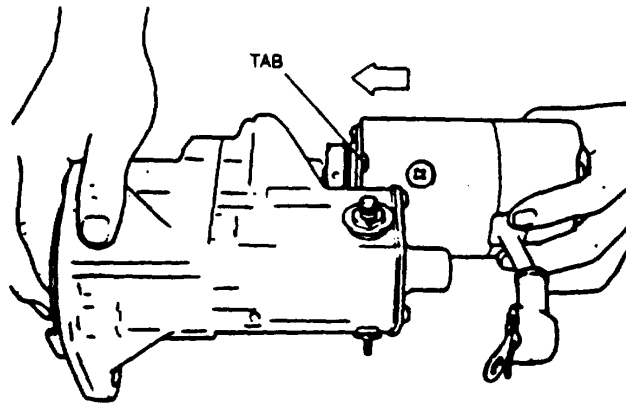

FIGURE 3-41. Installing Yoke
- k. Position yoke assembly (39) on magnetic switch assembly (24) engaging tab on yoke assembly with notch in magnetic switch, refer to FIGURE 3-41. Secure with two through bolts (7, FIGURE 3-15), new lockwashers (8), washers (9), and new preformed packings (10). Tighten through bolts 5.1 to 8.7 ft-lbs (6.9 to 11.8 Nm).